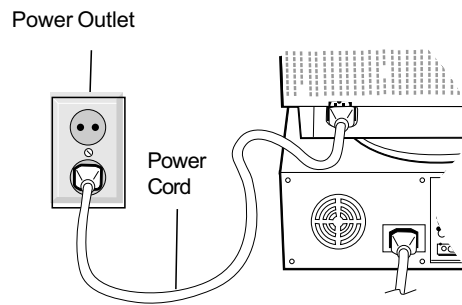

Figure C.1
4. Connect one end of the power cord to the MultiSync FE monitor and the other end to the power outlet (**Figure C.1**).